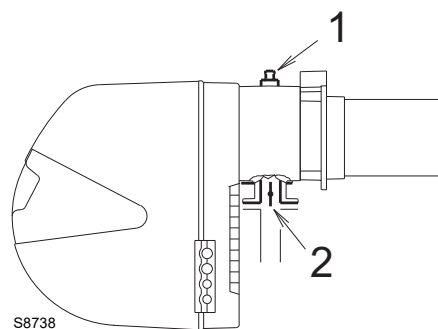

Fig. 23
Gas pressure measured at test point 1)(Fig. 23), with:
Pressure drop at gas butterfly valve 2)(Fig. 23) with maximum opening: 90°.
- subtract the combustion chamber pressure from the gas pressure measured at test point 1)(Fig. 23).
To calculate the required gas pressure at test point 1)(Fig. 23), set the maximum modulating output required from the burner operation:
- Read, on the right (column 1), the pressure at the test point 1)(Fig. 23).
pressure required at test point 1)(Fig. 23).